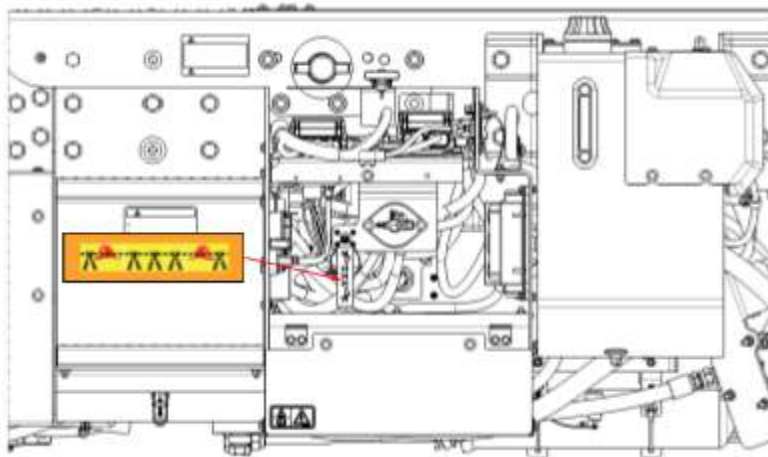

Figure 2
- A cable cut point is located in the low voltage box next to the driver's side frame access steps. A cable cut point is shown in Fig. 2 below.